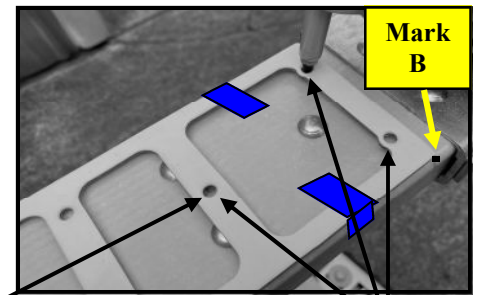

Figure 8 - Mark 3 Holes
4.) Tape Template & Mark Mounting Holes: Tape Template on centerline of rail with bottom edge lining up with Mark B. With a pencil or fine tip, black marker, draw a small indicator circle on the ladder rail at each hole to be used for mounting. (See Fig. 8 & 12)